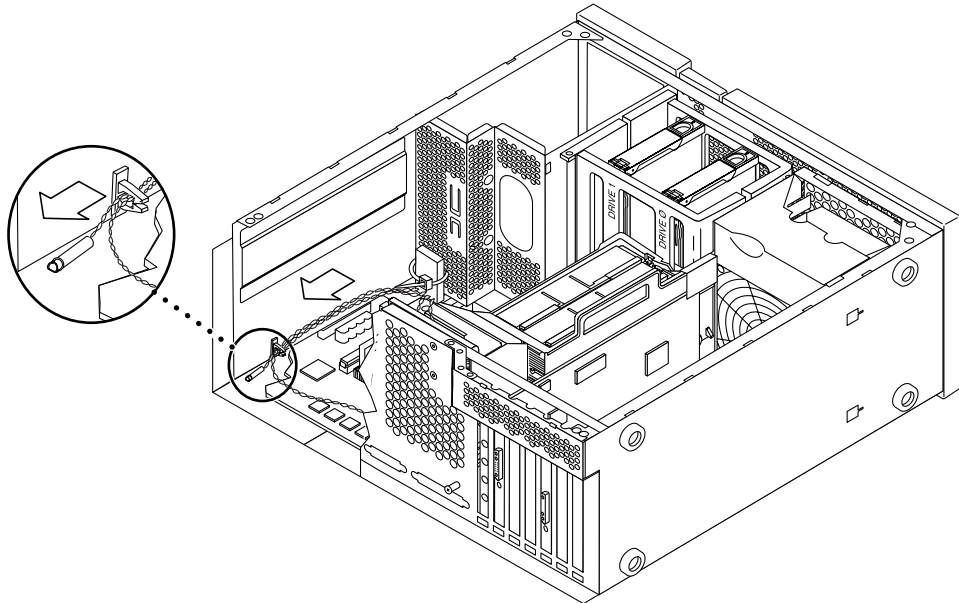

FIGURE 1-6 Routing the Temperature Sensor and Fan Power Lead
4. Route the temperature sensor and one of the fan power connector leads through the wiring routing clip and inside the chassis, as shown in FIGURE 1-6.